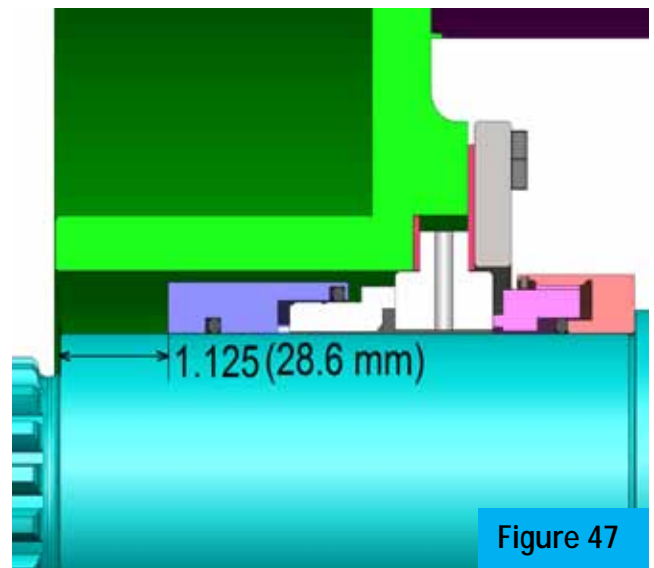

Figure 47
1. Lubricate shaft, then slide outer seal on shaft, with seal face toward shaft splines, until seal reaches shaft shoulder or dimension shown, Figure 47. Tighten outer seal set screws.
4. Using inner seal, lubricate shaft, then slide inner seal on shaft, seal face toward bearings, to dimension shown, Figure 47. Tighten inner seal set screws.